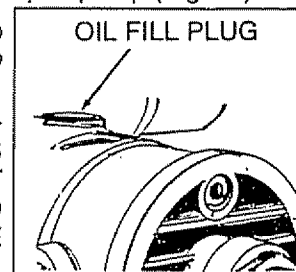

FIG. 17
- Remove the Oil Fill Plug on top of pump (Fig. 17).